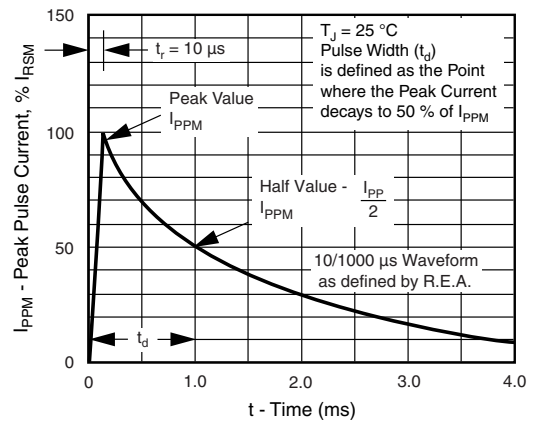
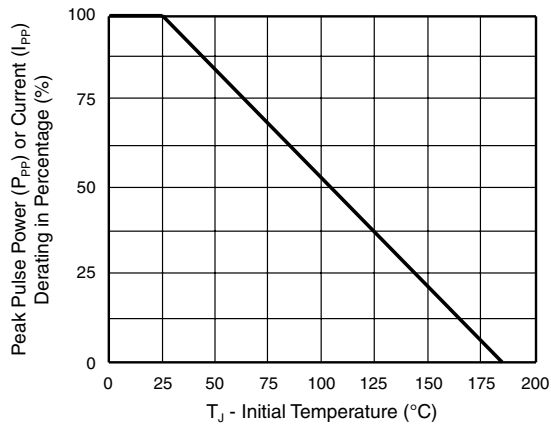

Figure 3. Pulse Waveform
Figure 2. Pulse Derating Curve
(1) Non-repetitive current pulse, per Fig. 3 and derated above TA = 25 °C per Fig. 2
(2) Mounted on P.C.B. with 5.0 x 5.0 mm copper pads attached to each terminal
(3) Pulse test: 300 μs pulse width, 1 % duty cycle
(2) Surge current waveform per Fig. 3 and derated per Fig. 2
(3) All terms and symbols are consistent with ANSI/IEEE C62.35